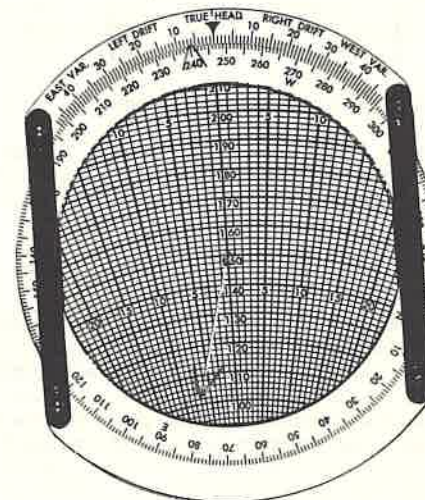

FIG. 3c
9. Finally rotate the compass ring back and forth until the drift angle on the drift arc opposite the True Course (240 deg.) is equal to the drift on the slide at wind arrow. This occurs at 6 1/2 deg. See Fig. 3c.